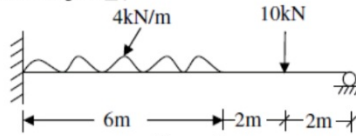

Figure: 2
3. A propped cantilever beam is shown in figure 2. Calculate the prop Reaction and also draw the BM and SF diagrams. [15]